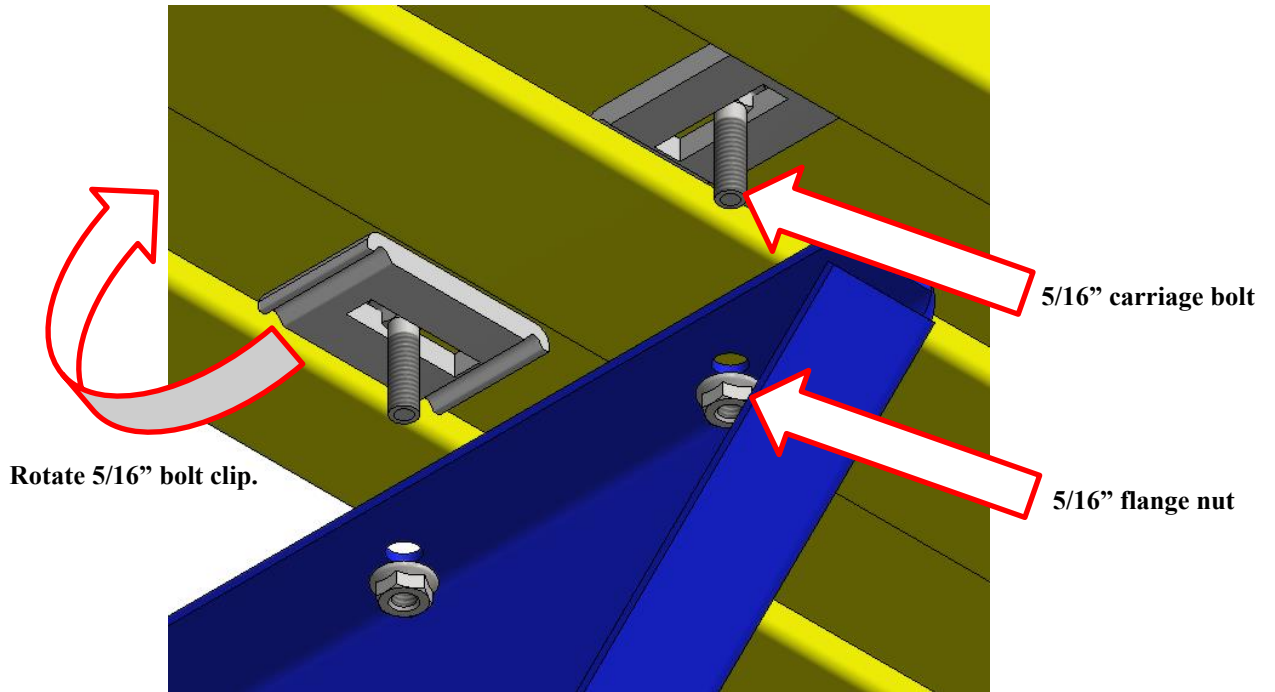

Figure 3
1. The seating planks are assembled using 5/16" carriage bolt, bolt clip & flange nut (Figure 3).